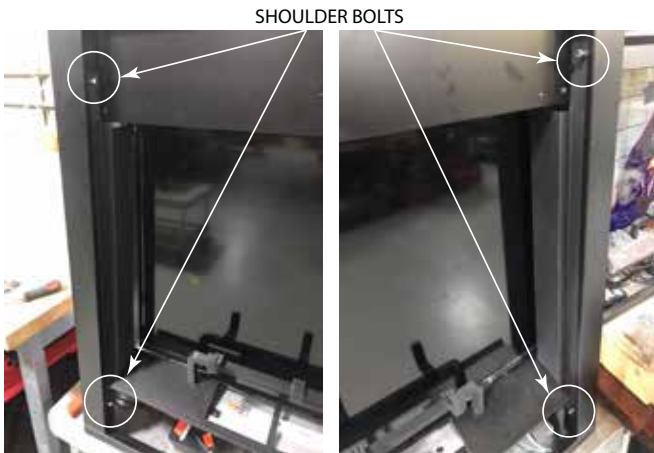

Figure 4.14 Install Side Panels
Remove the (2) side panels from the component box. The angled portion of the side panel should be facing the bottom of appliance. Locate the (4) shoulder bolts and attach the (2) side panels with (2) shoulder bolts per side. See Figure 4.14.